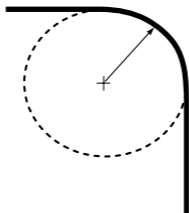

Figure 5-1 PIPING BENDS
- The inside radius of a bend must be less than six times the tubing outside diameter (see Fig. 5-1 and Table 5-4).